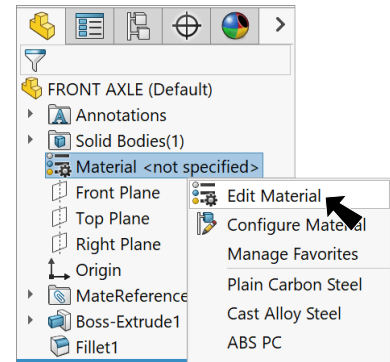

Fig. 11
Step 1. Right click **Material** in the Feature Manager and click **Edit Material**, Fig. 11.